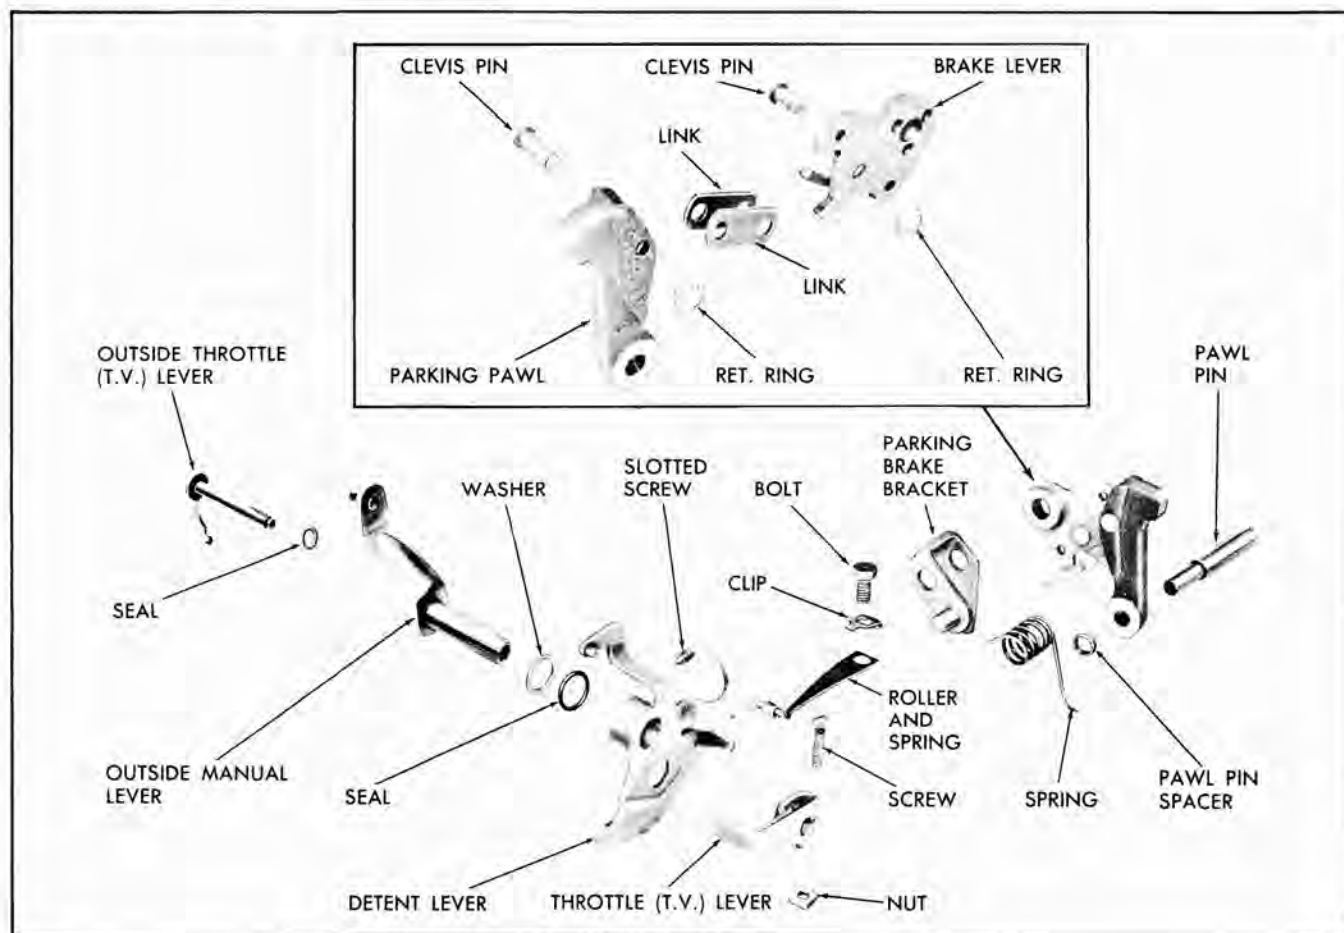
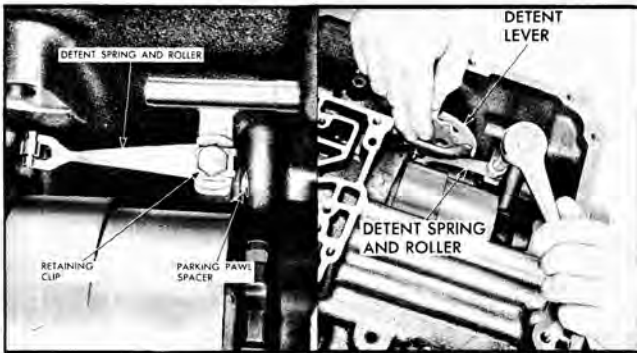

Fig. 146 Throttle, Manual, and Parking Parts—Exploded
Fig. 147 Installing Detent Spring and Roller
in the case to act as a guide while centering the roller in detent, tighten attaching bolt to 15-18 lb. ft. torque (Fig. 147).
1. Place parking pawl pin spacer (Fig. 146) in recess in case (Fig. 147).